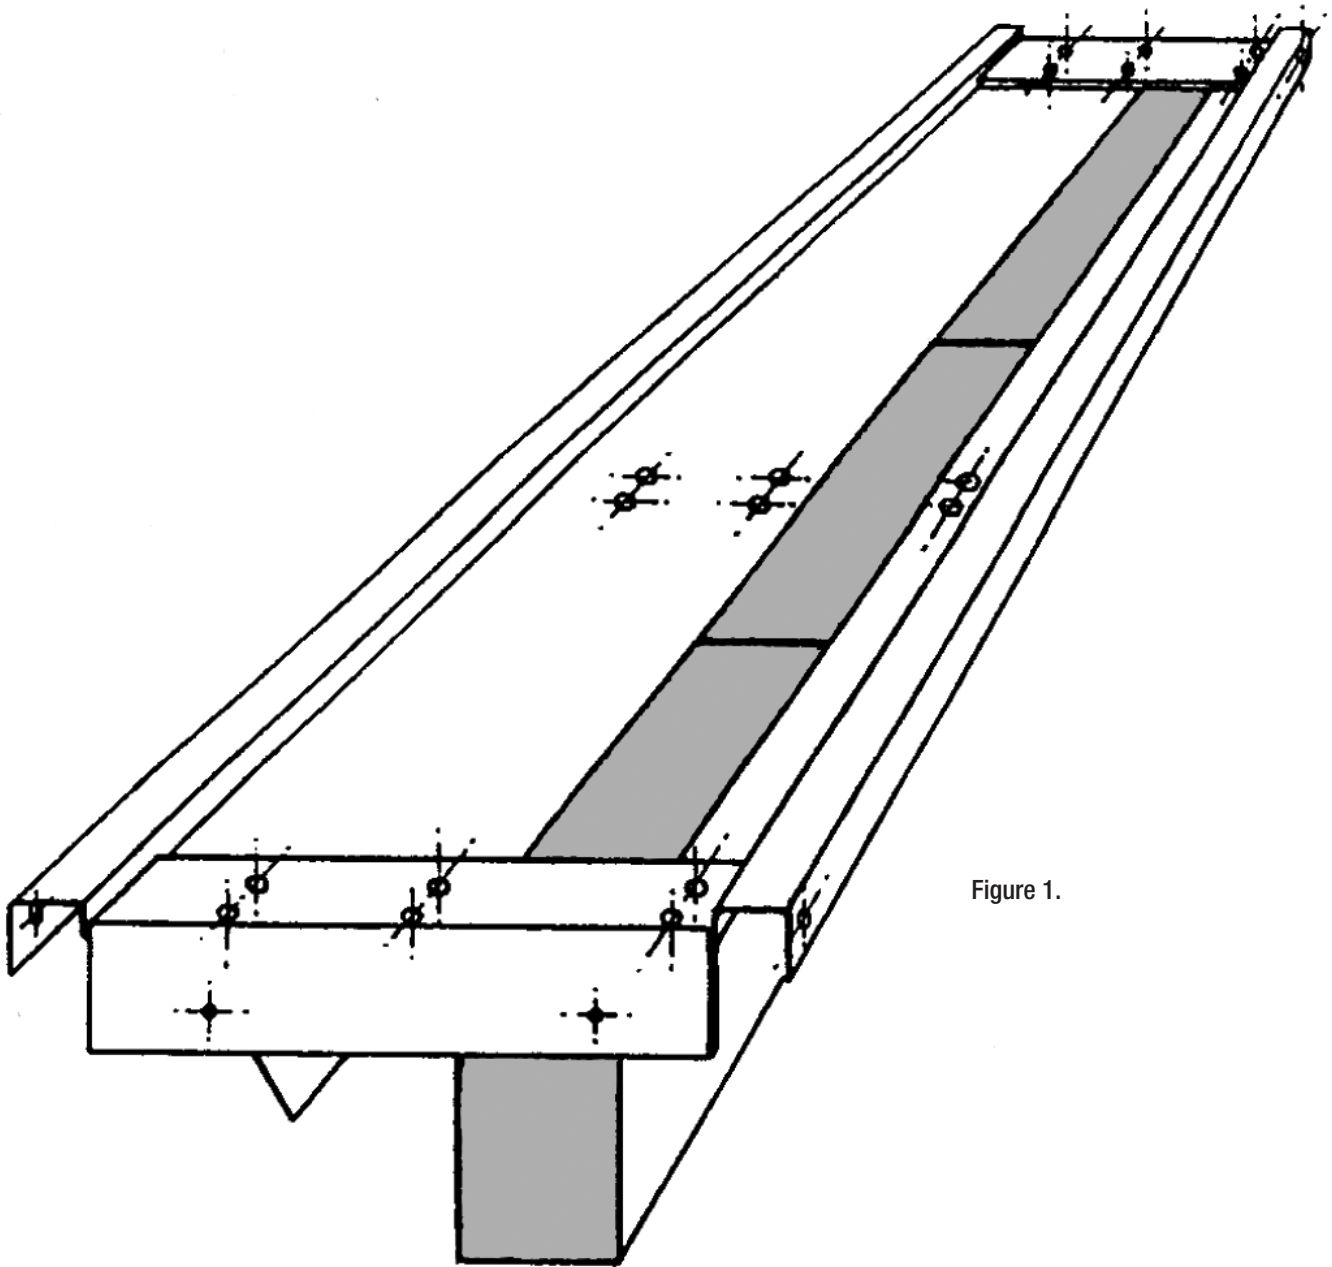

Figure 1.
2.1 The component parts of the channel system can be pre-assembled (left side, right side, polystyrene) with positioning brackets supporting the tube (see figure 1 above). Rivets, clamp plates and rolls of belt are supplied separately.